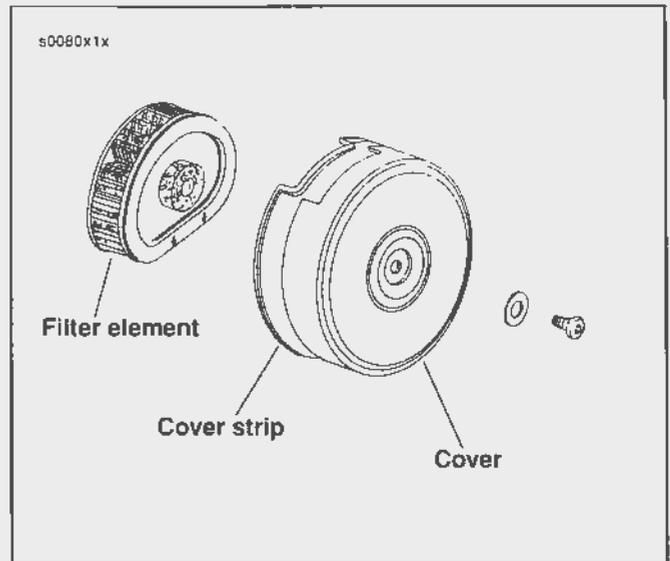

Figure 1-13. Air Cleaner
1. See Figure 1-13. Remove screw, washer, and air cleaner cover. Pull rubber breather connectors from the back of the filter element and remove element.